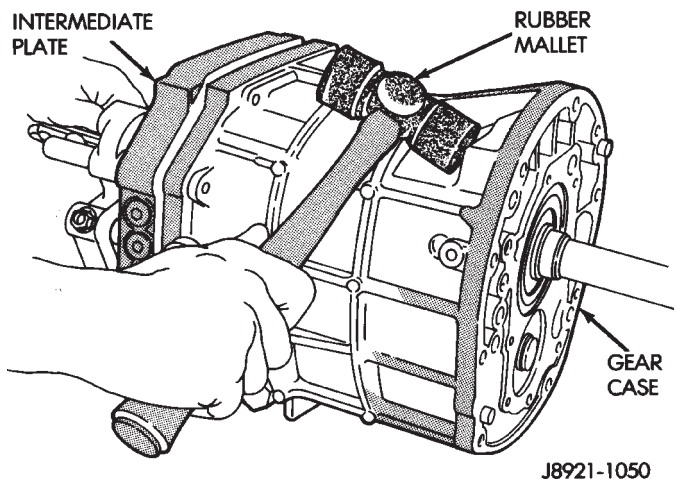

Fig. 34 Separate Intermediate Plate and Transmission Case
- (23) Separate intermediate plate and transfer case by tapping them loose with plastic mallet (Fig. 34).